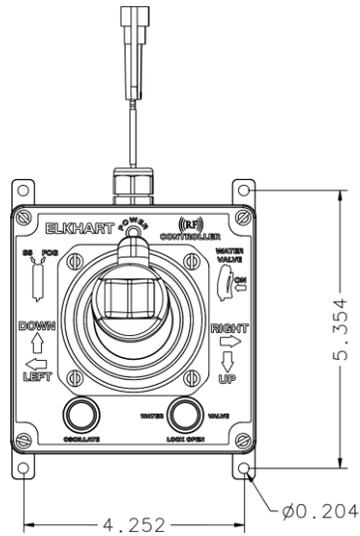

Figure 11
- 1) Mark the mounting screw pattern per dimensions in Figure 11.